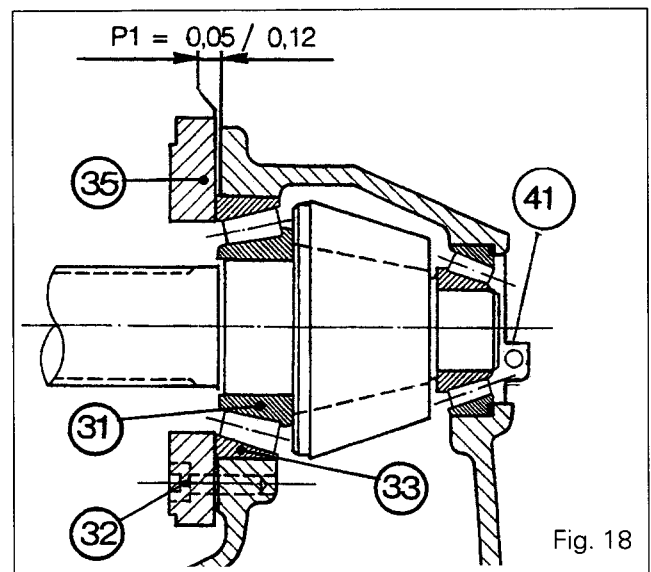

Fig. 18
80. In order to prepare shimming **P1**, determine a shim thickness greater than the dimension "**a**" by which the cup **(33)** protrudes from the face of the housing (Fig. 18) so as to obtain a play of 0.10 to 0.15 maximum.
82. Fit the bolts (32), remove the guide studs and tighten to a torque of 90 - 120 Nm.
83. Carry out shimming (Fig. 18) to obtain: